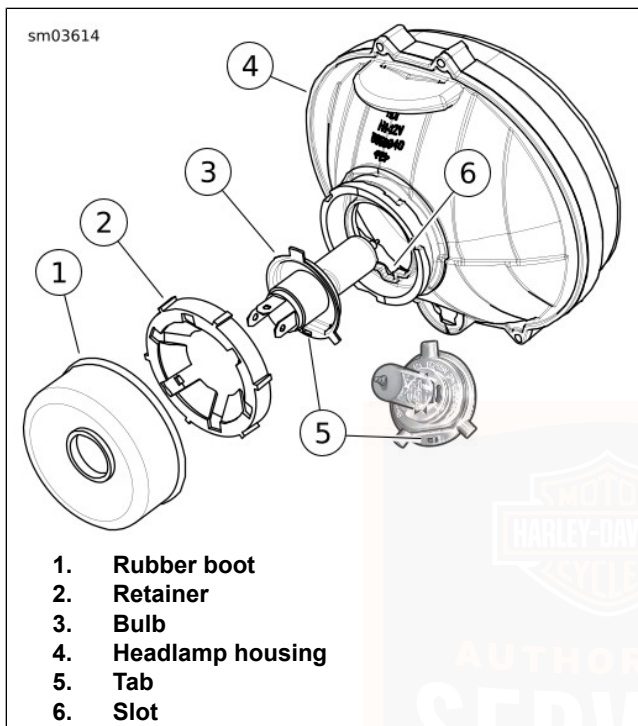

Figure 62. Headlamp Housing Assembly
1. See Figure 62. Remove rubber boot (1).
2. Rotate retainer (2) counter-clockwise and remove.
4. See Figure 62. Install **new** bulb in headlamp housing. Be sure tab (5) on bulb is aligned with slot (6) in bulb housing.
5. Install retainer (2) and rotate clockwise to secure.
6. Install rubber boot (1) over retainer until flush with base of bulb socket.